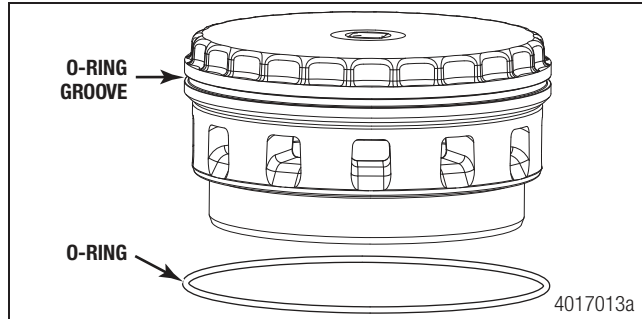

Figure 11.9
- Carefully install the new o-ring, part number 5X1508, into the o-ring groove on the adjustable bearing carrier. Use a small amount of SAE 40W oil as lubricant for reassembly. Figure 11.9.